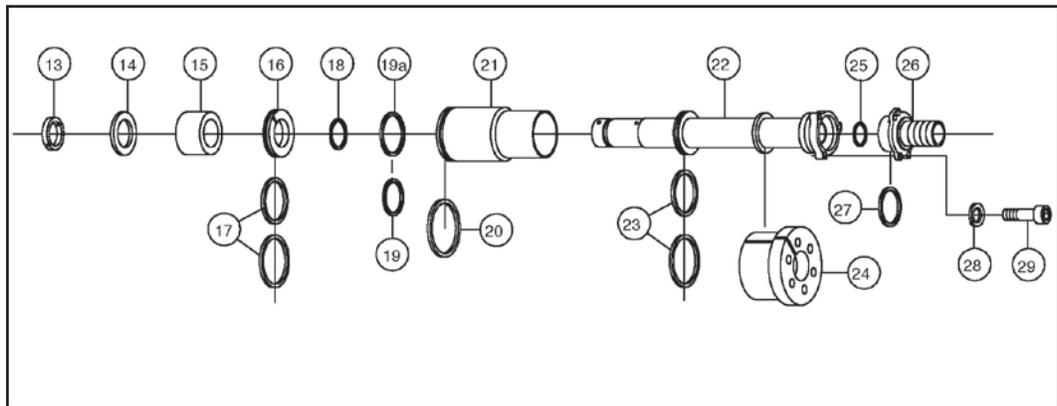

**FIG. 55: TIGHTEN 3 SOCKET HEAD CAP SCREWS**
9. Screw in the 3 socket head cap screws with lock washers and evenly tighten them using the allen wrench (see Fig. 55).